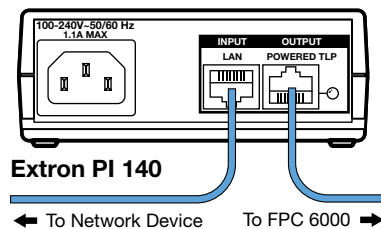

Figure 6. Connecting the Power Injector
- If you are using the provided PoE power injector, connect the FPC 6000 to the power injector and connect the power injector to the Ethernet LAN (see figure 6 on page 11).